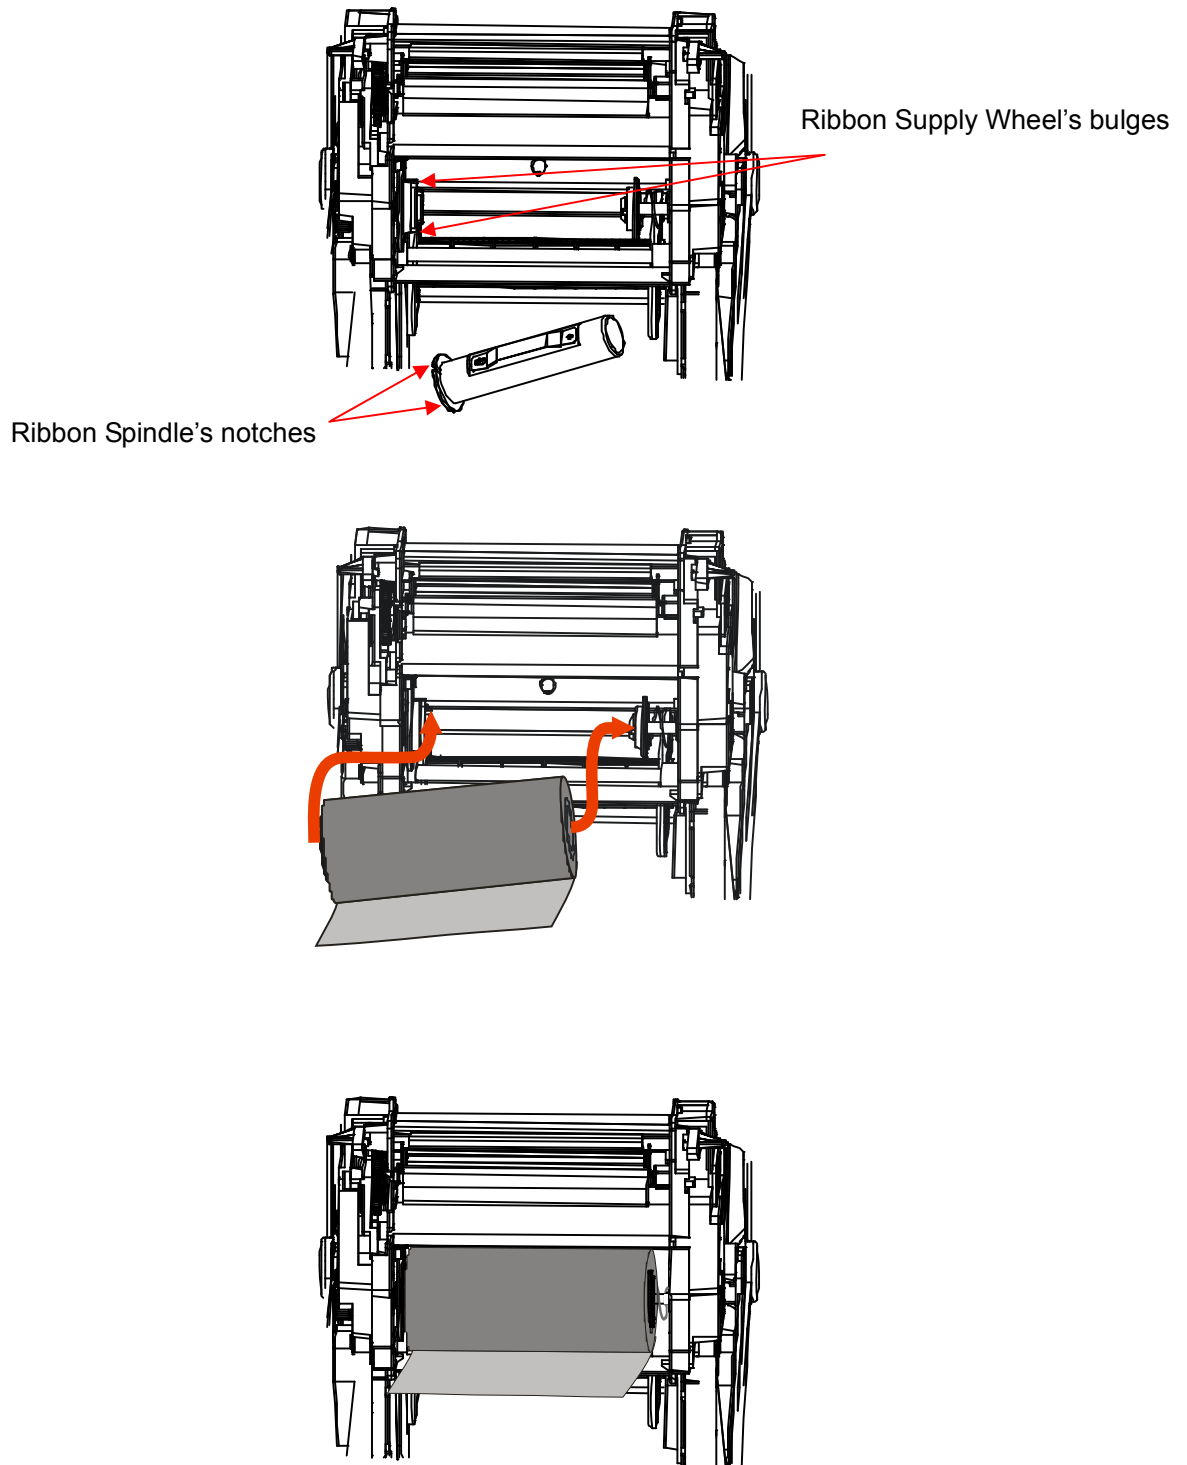

Figure 5-4
6. Load the Ribbon Spindle into the printer and route the ribbon through the Printhead Module. (see Figure 5-4)